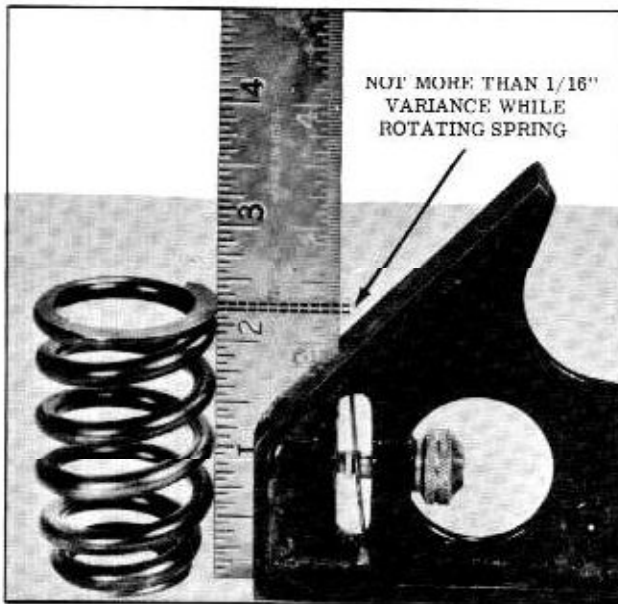

Fig. 8-15 Valve Spring Height
- a. Occasionally this noise can be eliminated by rotating the valve spring and valve. Crank engine until noisy valve is off its seat. Rotate spring 90°. This will also rotate valve. Repeat until valve becomes quiet. If correction is obtained, check for an off square valve spring. If spring is off square more than 1/16" in free position, replace spring. (Fig. 8-15)